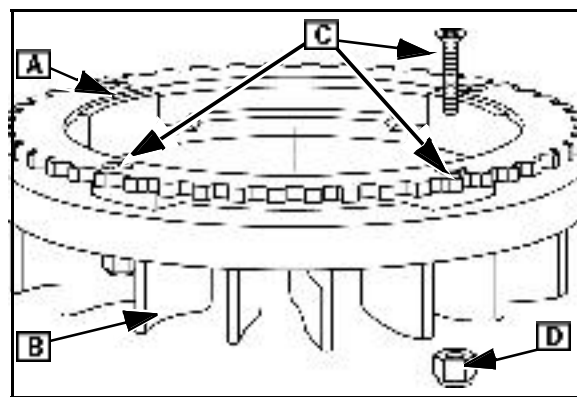

Fig. 34
1. Using a center punch, mark center of rivets holding ring gear ([A] Fig. 34) to flywheel ([B]).
3. Attach new gear to flywheel using four screws ([C]) and lock nuts ([D] Fig. 34) provided with gear.